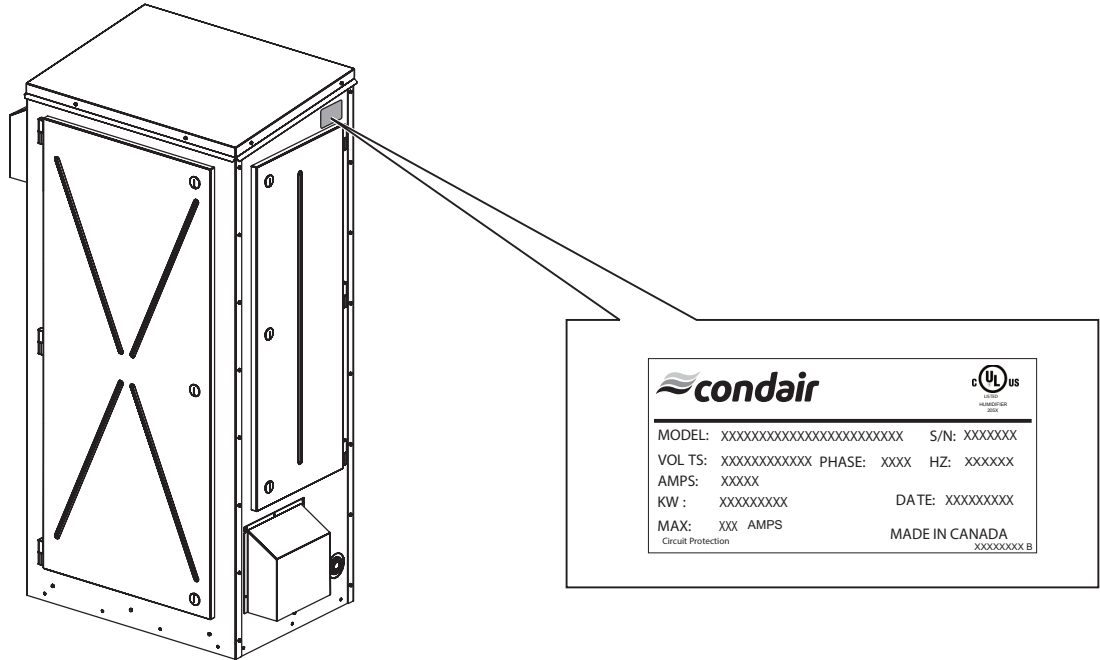
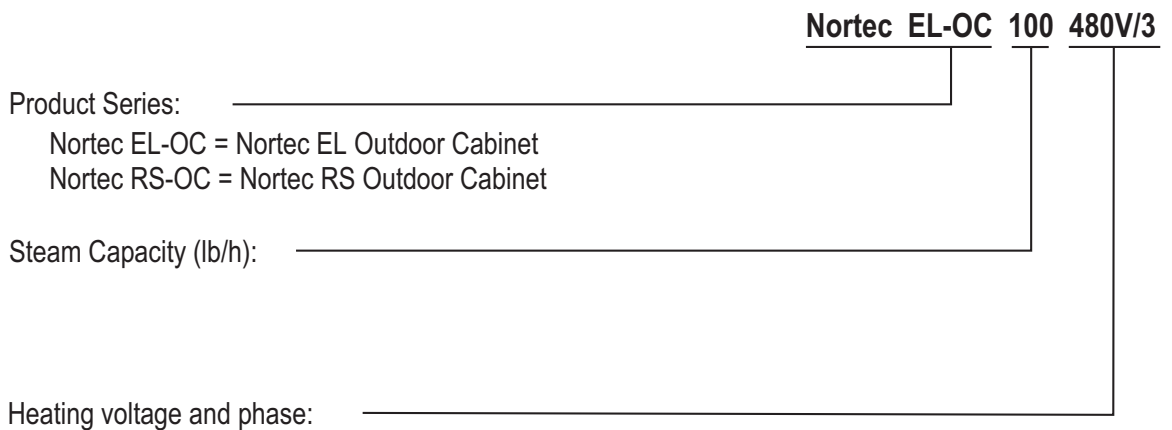

Figure 3: Nortec EL/RS Outdoor Steam Humidifier Specification Label
Figure 4: Model Breakdown
- Verify the model type, capacity and voltage on the specification label to ensure that it is suitable for your installation site. Refer to Figure 3 on page 13.
The specification label on the side of the Nortec EL/RS Outdoor humidifier shows its model number, serial number and ratings – refer to Figure 3. The breakdown of the model number is shown in Figure 4.